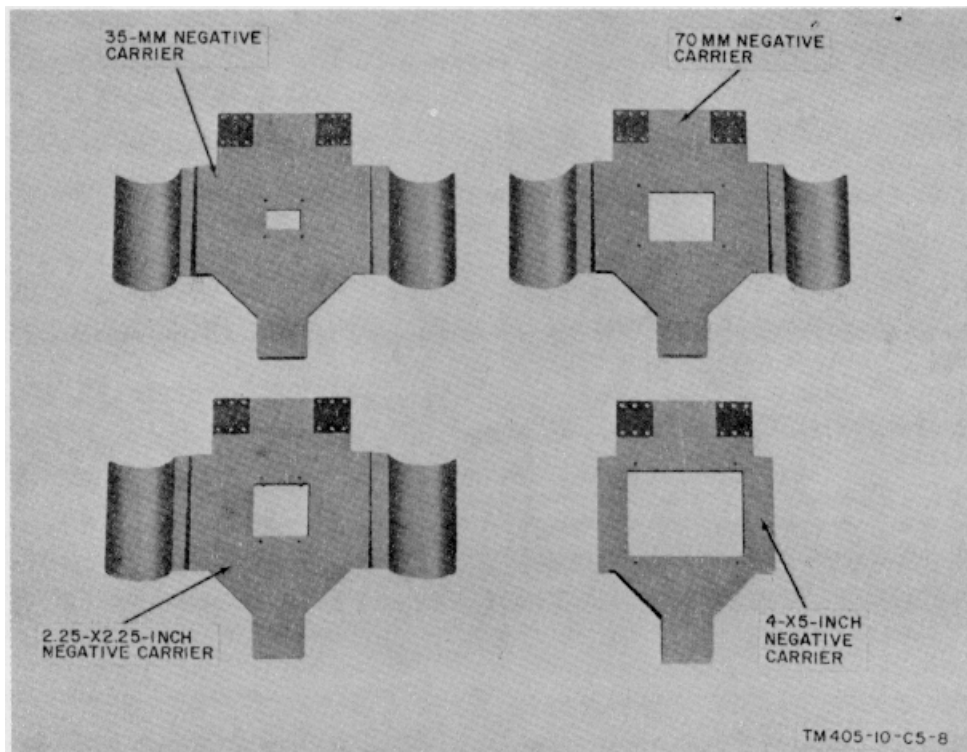

Figure 25.2. Negative carriers furnished with ES-20(3).
Page 31, figure 25 (page 15 of C 3). Add figure 25.2 after figure 25.1.
Subparagraph (3) (c), line 2 (page 15 of C 3). Change "ES-20(2) (fig. 25.1)" to ES-20(2) (fig. 25.1) and ES-20(3) (fig. 25.2).